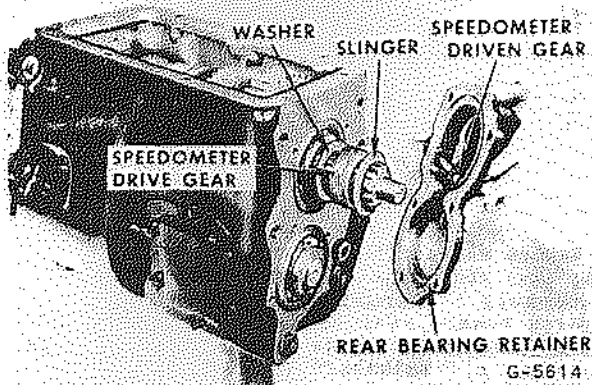

Fig. 14 - Removing Mainshaft Rear Bearing Retainer
Remove six bolts and lockwashers from mainshaft rear bearing retainer (69). Lift retainer and gasket (72) from case (64). Slide mainshaft slinger (18), spacer/gear (19) and washer (20) from mainshaft (17). See Fig. 14. NOTE: Remove countershaft rear bearing nut (50) while transmission is locked.